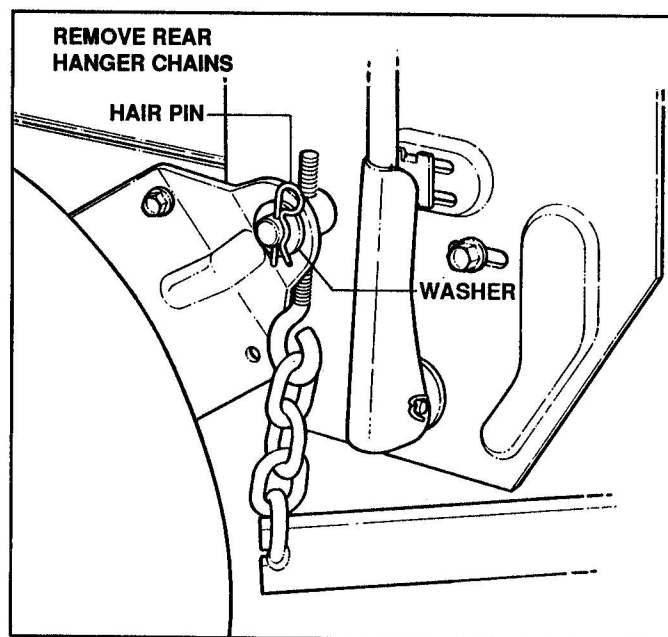

FIGURE 4.8
- (f) Remove rear hanger chains and allow center rear of deck to rest on support. See Figure 4.8.
- (k) Readjust rear hanger chains to maintain level. Reinstall rear hanger chains. Refer to Figure 4.8.